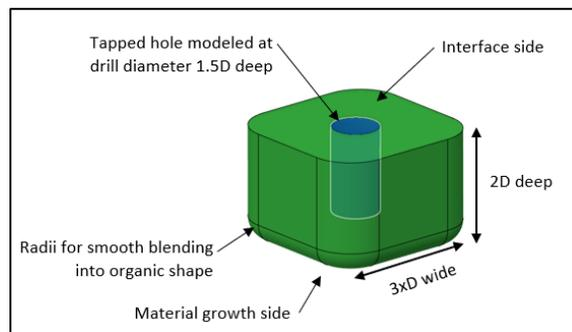

Figure 2-5. Blind threaded hole bolt **Preserve**.
- Rounded rectangle or disk 3 * D across like the Clearance hole (Section 2.3.2.1). See Figure 2-5.